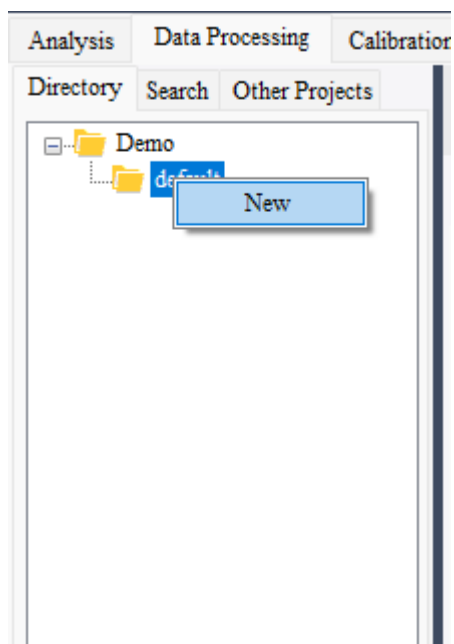

Fig. 3-64 Add storage directory
3) As shown in Fig. 3-64, click the  icon behind the display box of "Storage Location", and the page of "Select Storage Location" will pop up. On this page, click the right mouse button to prompt "Add Directory", click "Add Directory", enter the folder name in the pop-up dialog box, and click